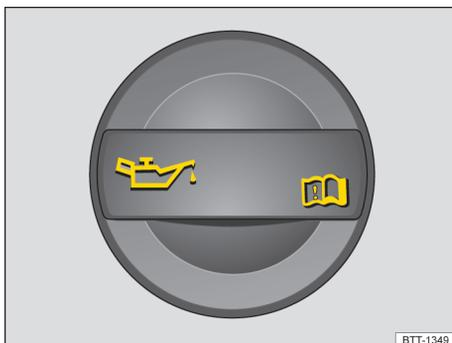

Fig. 171 In the engine compartment: Engine oil filler cap (cap design may vary depending on vehicle equipment).
4. Find the oil filler opening and the dipstick. You can identify these by the 🛢️ symbol on the engine oil filler cap → fig. 171 and the colored handle on the dipstick. If you are not sure where the cap and the dipstick are located, see your authorized Volkswagen dealer or authorized Volkswagen Service Facility for assistance.
9. Remove the cap on the engine oil filler opening → fig. 171.